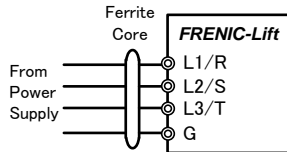

Figure 8.2 Installation for ferrite core
- 4) If radiated noise emissions exceed the requirement by the standard, place a ferrite core on the input side of the inverter, as shown in Figure 8.2